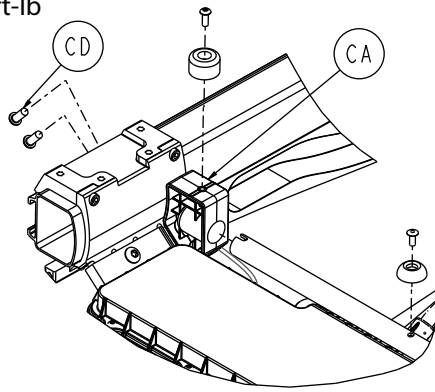

Figure 24 – Remove the Gatch bumper housing
8. Using a T27 Torx driver, remove the two button head cap screws (CD) that secure the Gatch bumper housing (CA) to the hitch bracket (Figure 24). Remove and save the Gatch bumper housing. Save the screws. Repeat on the other side.